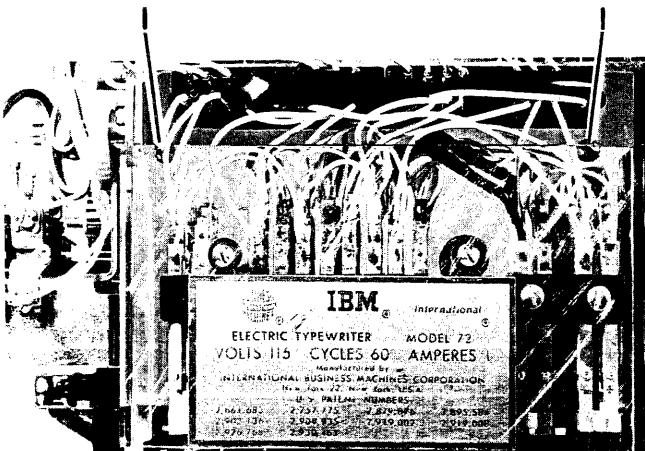

FIGURE 20. Rotate Selection Differential Removal
- * 3. Remove the two screws (#1, Figure 20) that hold the plate to the frame. Remove the contact assembly, holding it to the front with a rubber band.